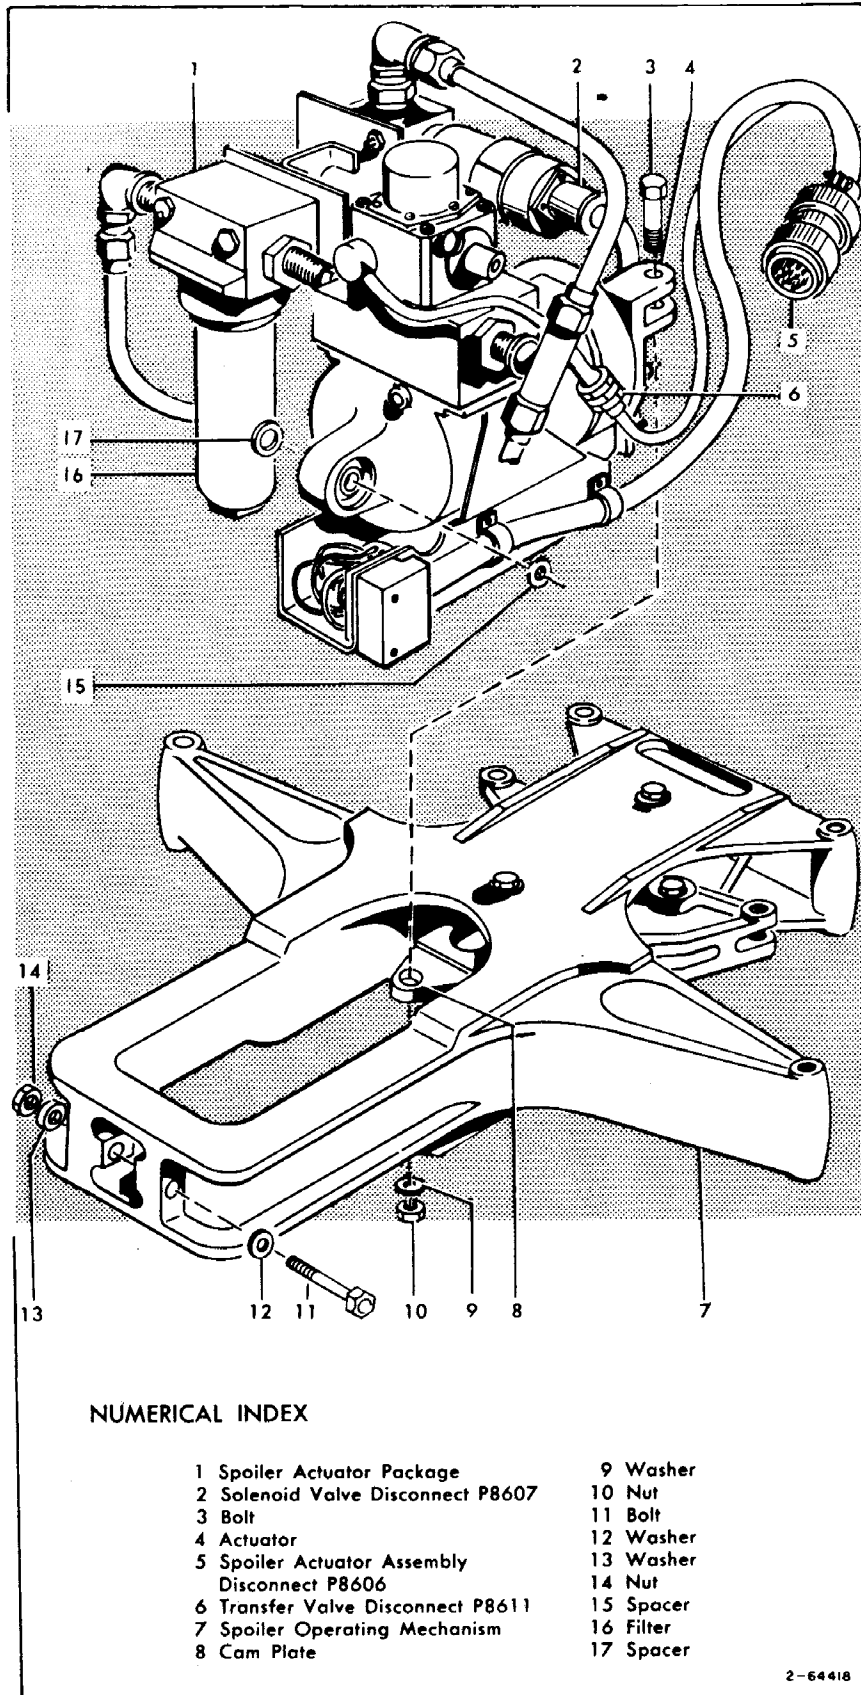

Figure 3-26. Assembly of Spoiler Mechanism
- a. Remove nut, washer, and bolt (10, 9, 3, figure 3-26) from cam plate of spoiler operating mechanism; retain bolt for reuse.
- h. Align cam plate with actuator (4).
3-93. CONNECTING SPOILER CONTROL RODS AND SPOILER ACTUATOR PACKAGE ELECTRICAL CABLES. (See figure 3-26.)